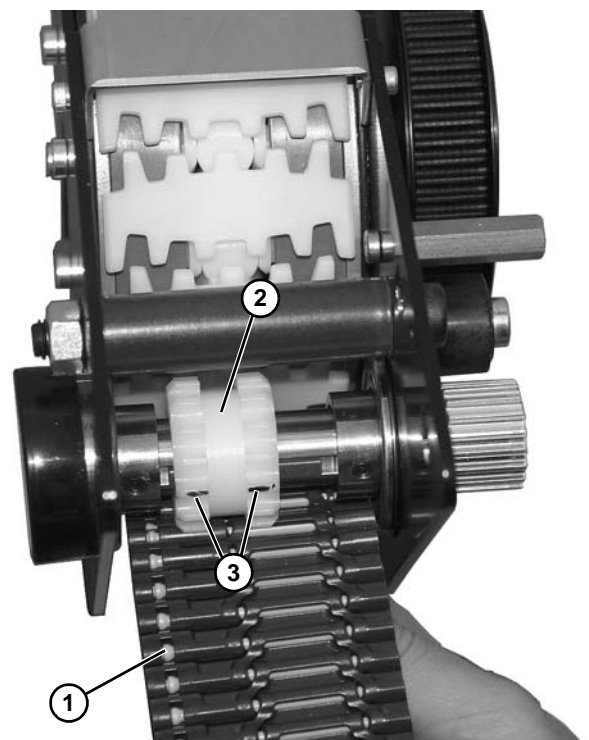

Figure 172
3. Raise belt (Figure 172, item 1) into position, and move gear (Figure 172, item 2) so that cogs line up with belt, as shown.
4. Tighten sprocket with set screws (Figure 172, item 3) in proper alignment with belt (Figure 172, item 1).